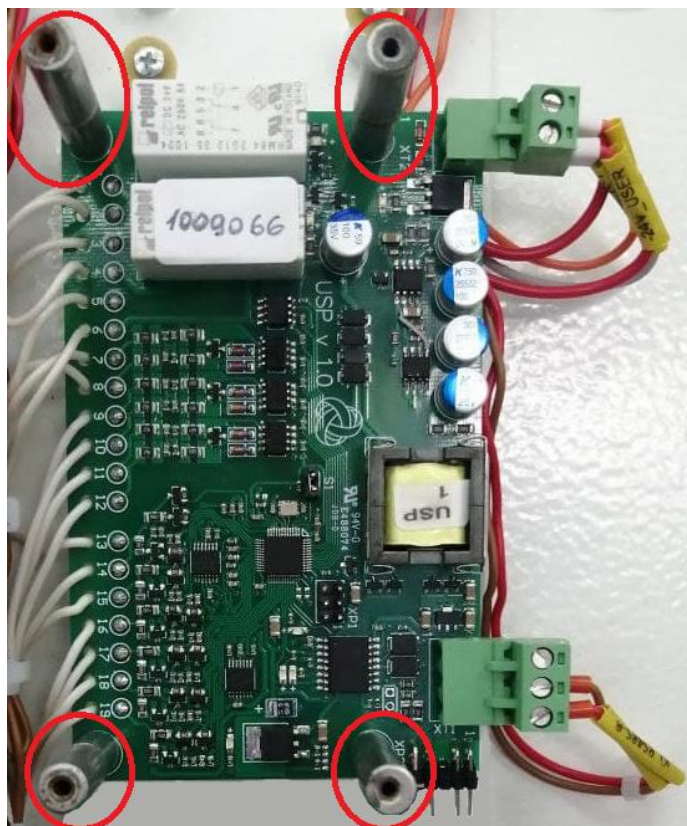

Figure 21 - Unscrew bolts which fixed external unit
4. Unscrew bolts which fixed external unit, which shown at the figure 21, using lineman's pliers